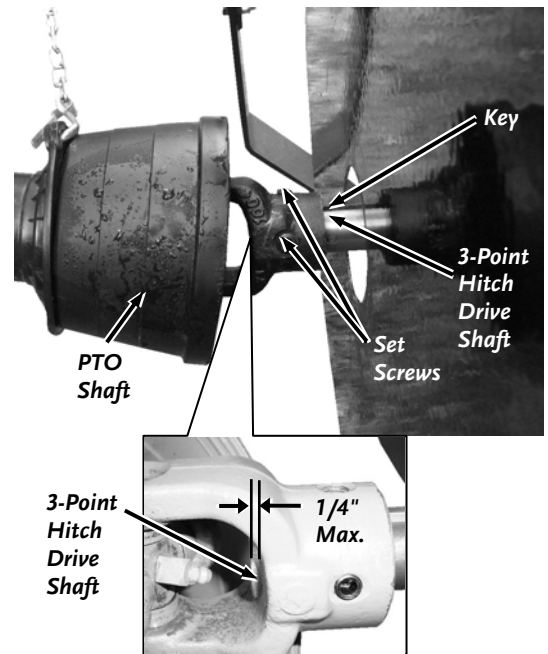

Figure 21
1. Insert the Key into the 3-Point Hitch Drive Shaft of the Chipper (**Figure 21**).